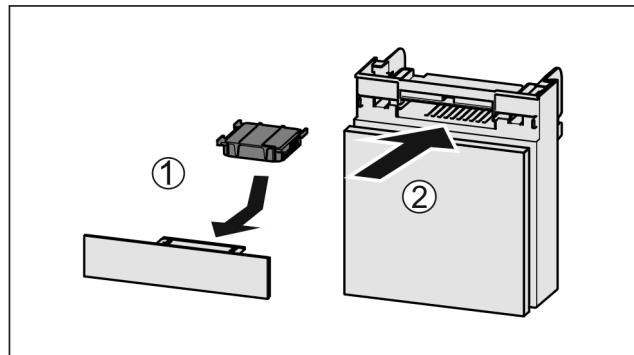

Fig. 170
- ▶ Insert the carbon filter as shown in the diagram *Fig. 170 (1)*.
- ▶ Push the compartment in *Fig. 170 (2)*.